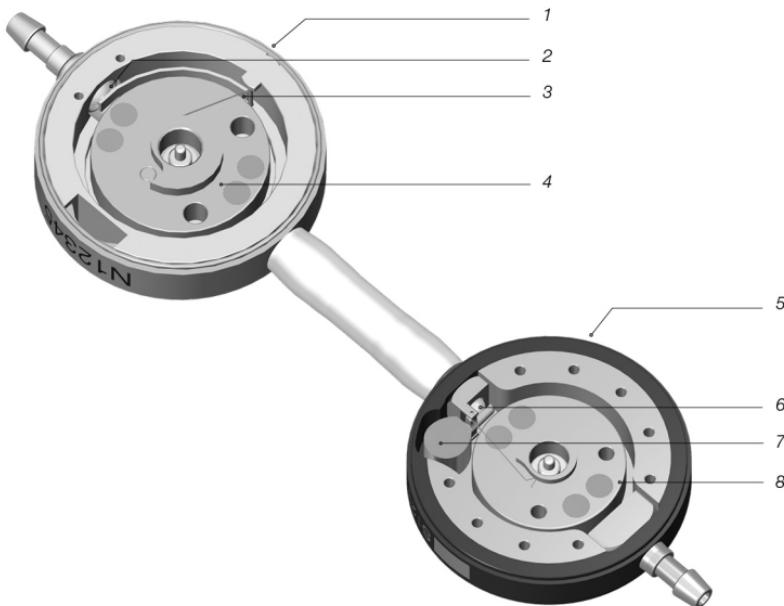

Fig. 1: Cross section of M.blue plus
M.blue plus is a valve made from titanium. It consists of an adjustable differential pressure unit (hereinafter proGAV 2.0) and an adjustable gravitational unit (hereinafter M.blue) (fig. 1). The adjustable differential pressure unit in the proximal part of the valve (1) consists of a stable titanium housing in which a ball-cone valve (2) is integrated in the front section. A torsion spring (3) determines the opening pressure of this unit.